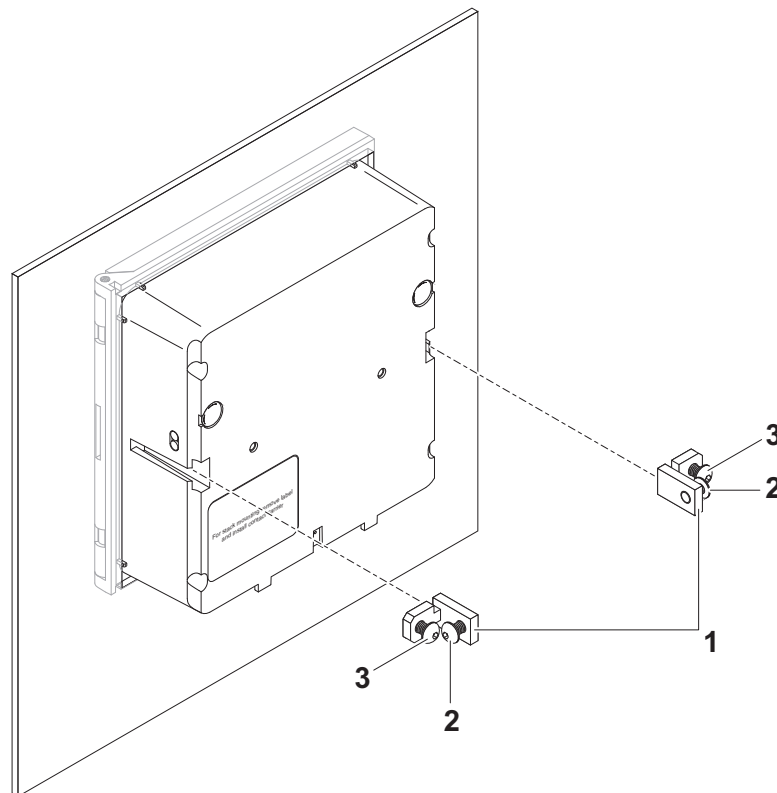

Fig. 3-24 Mounting the MIQ module on a panel
2	Slightly unscrew the screws (pos. 2 and 3) of the two angle brackets (pos. 1 in Fig. 3-24), but do not remove them.
3	Push in the two angle brackets - as shown in Fig. 3-24 - into the lateral guides of the MIQ module up to the stop.